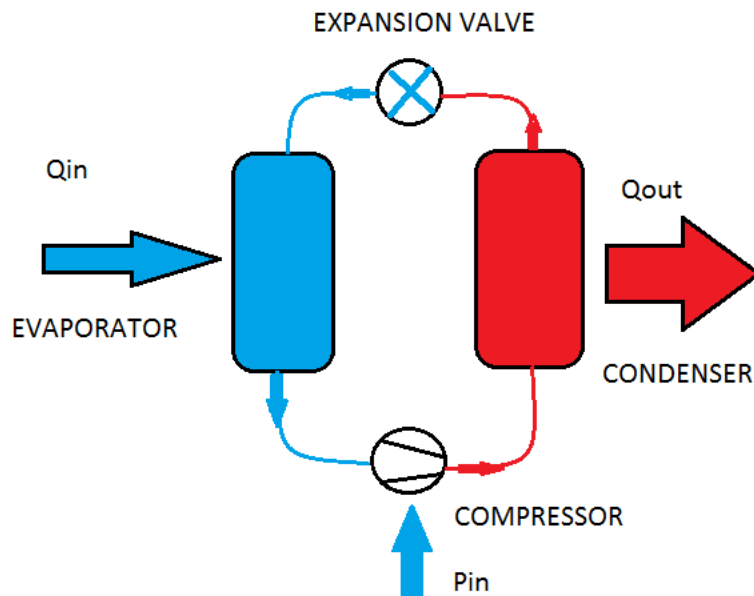

Fig.4. The heat pump four main components
- In the picture Fig.4 of a heat pump, ( $P_{in}$ ) supplied mechanical energy to the system from outside by a compressor.